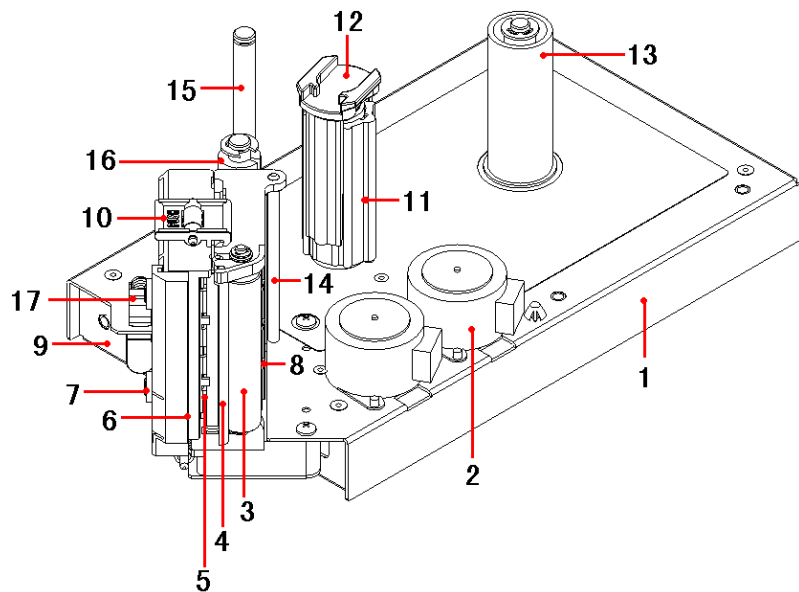

Figure 3.1.2 Structure
- Its structure is shown as figure 3.1.2 and include parts as below: